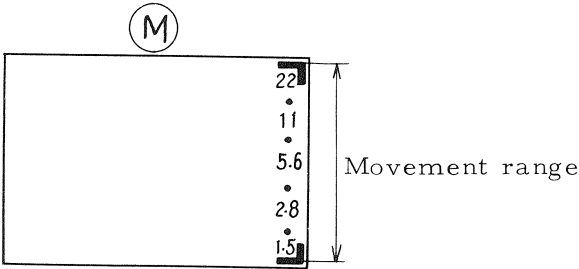

Fig. 31
- The movement of the needle is coupled to the rotation of the manual ring. The movement range of the needle should be as shown in the following diagram. (Fig. 31)